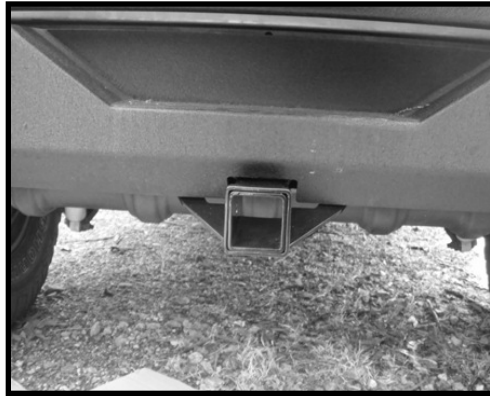

Figure 8.
11. Once all eight bolt and washer assemblies have been loosley installed, make sure the hitch is centered in the bumper cutout (Figure 8).